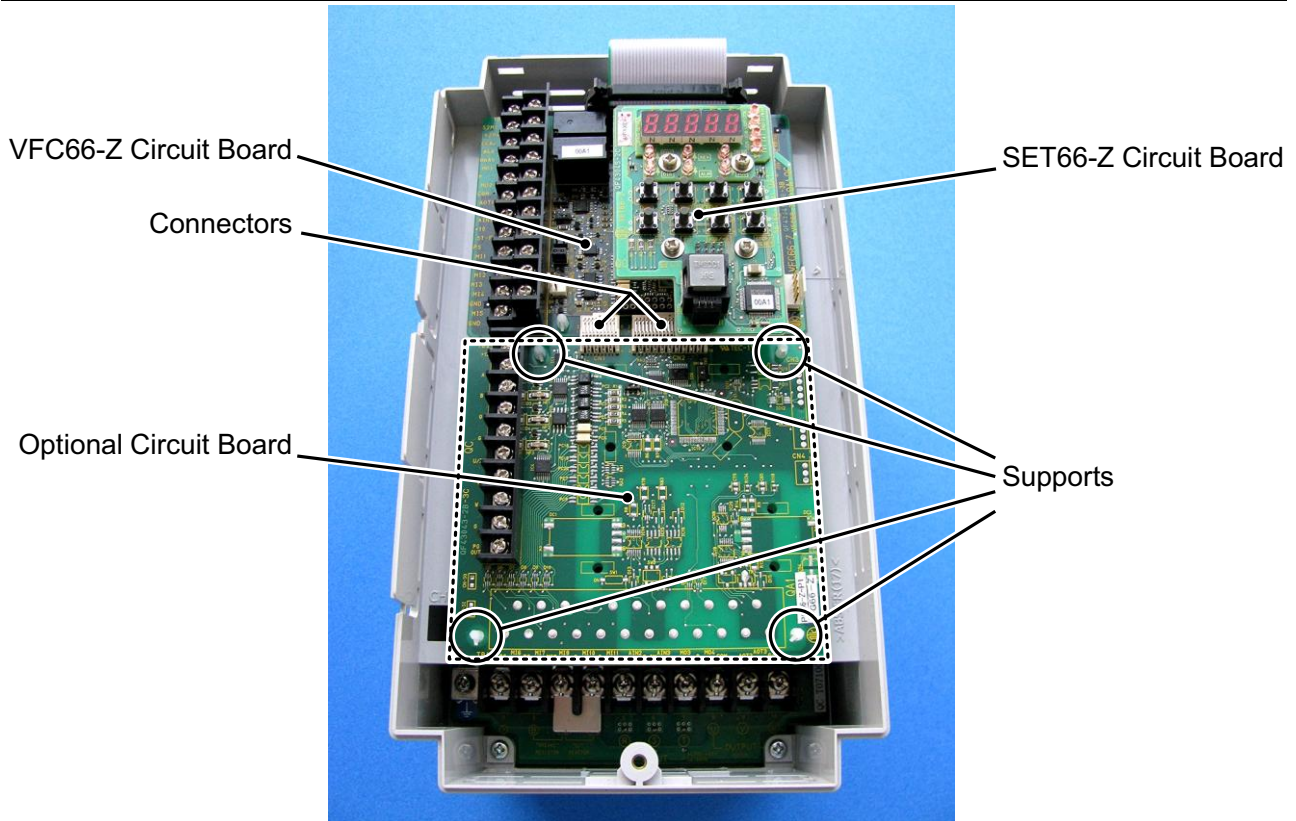
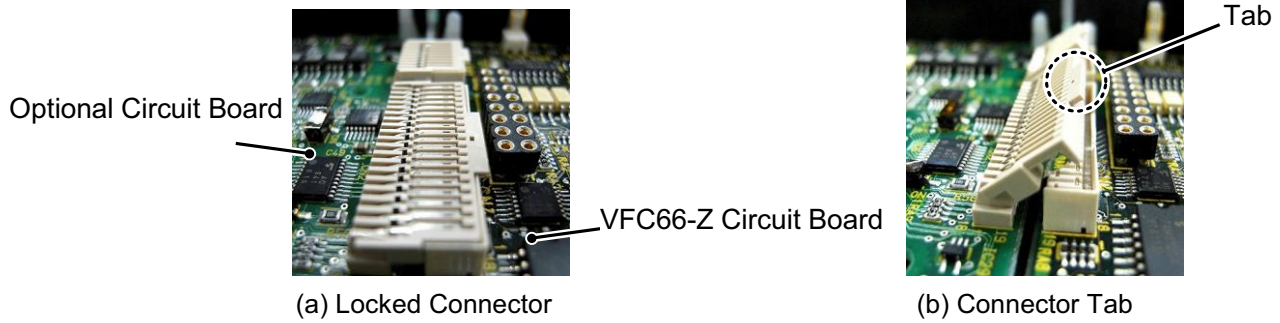
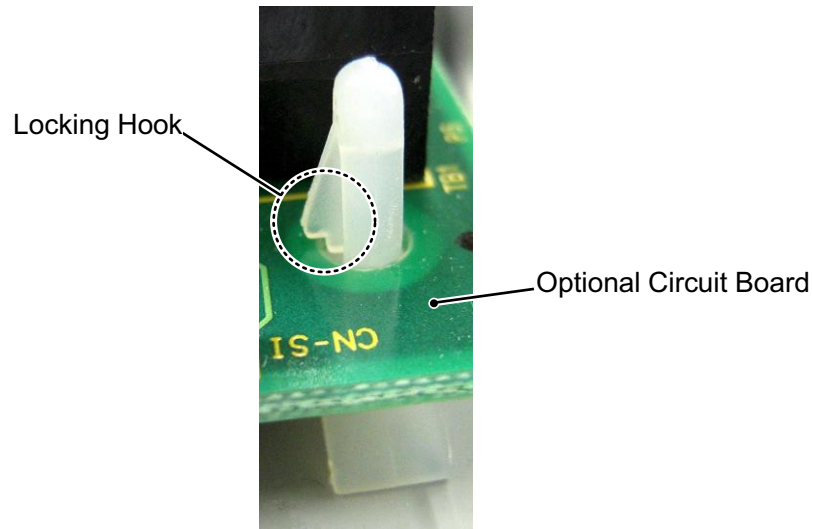

Figure 3.2 Optional Circuit Board Installation Position (VF66B-2R222)
Figure 3.4 Connector
Figure 3.5 Support Locking Hook
- (1) Confirm that the power is off before performing any work.
- (2) Install the PBUS66-Z board in the location designated by the dotted lines shown in Figure 3.2. (The figure shows the VF66B-2R222 model, however, the installation location is the same for other models.) If another optional circuit board is already installed, remove it by following the procedure described below. If another optional circuit board is not already installed, skip to (6).
- (3) In order to safely remove the optional circuit board, first remove the SET66-Z board. Remove the 4 screws indicated by the circles in the figure on the right. Pull the SET66-Z board away from the VFC66-Z board in order to detach it.
- (4) Next, release the two connectors between the VFC66-Z board and the optional circuit board. Figure 3.4 (a) shows the connector in its engaged position. Pull up the tab to release the connector as shown in Figure 3.4 (b).
- (5) 4 board supports are included to mount the optional circuit board to the inverter housing, as indicated by the circles in Figure 3.2. Press down on the board support locking hooks as shown in Figure 3.5 to remove the optional circuit board.
- (6) Align the four holes of the PBUS66-Z board with the 4 board supports indicated by the circles in Figure 3.2. Push down on the board until the support locking hooks snap into place as shown in Figure 3.5.
- (7) Align the tabs (shown in Figure 3.4 (b)) of the PBUS66-Z board connectors CN1 and CN2 with the VFC66-Z board connectors CN7 and CN4. Press down on the tabs to engage with the connectors. Once the connectors are correctly joined, it will look like Figure 3.4 (a). The movable part of the connector has some elasticity and if the joint is weak, it may become disconnected. Ensure that it is properly locked in place.
- (8) Install the SET66-Z board to its original position.
- (9) Return the inverter unit cover lid to its original position.